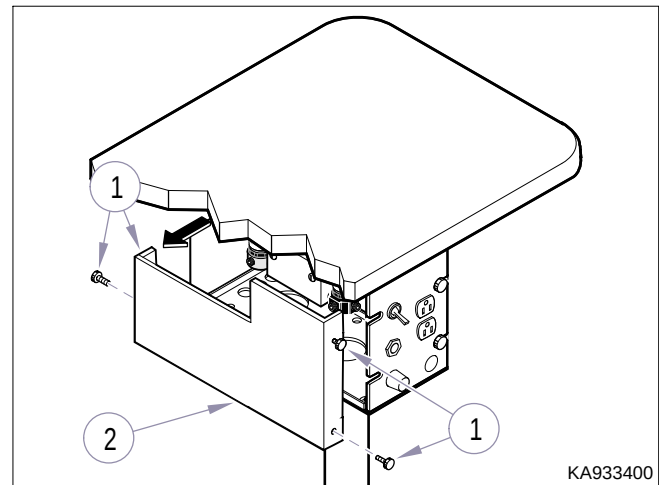

Figure 4-12. Asepsis 21 Duo/Assistant's Housing Cover Removal
- (1) Disable unit for repair. (Refer to para 4.1).
- (2) Loosen four thumbscrews (1, Figure 4-12); then remove side panel (2).
- (3) Repeat for opposite side if necessary.